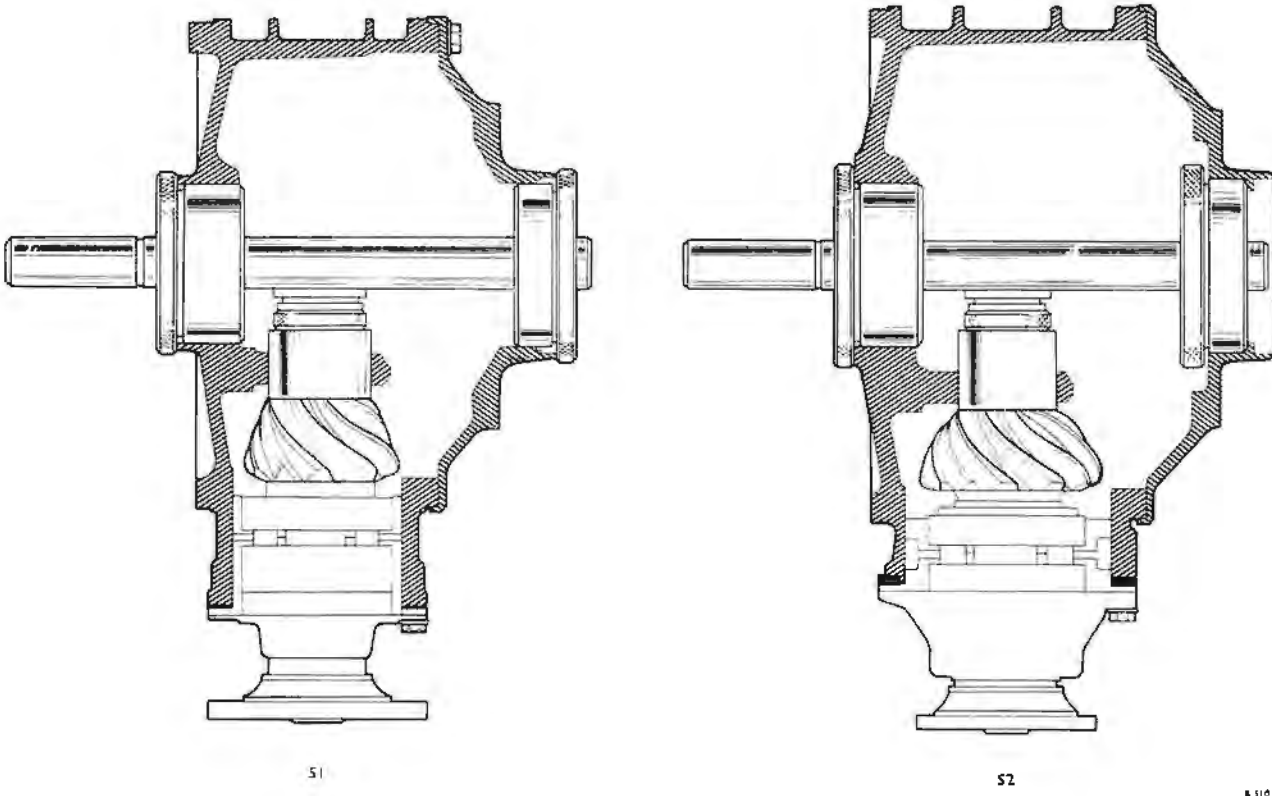

Fig. J19 Pinion setting tool in position
4. Fit the pinion setting tool into the casing as shown in Figure J19, using the original adjusting washer under the pinion housing flange (i.e. chamfer upwards).